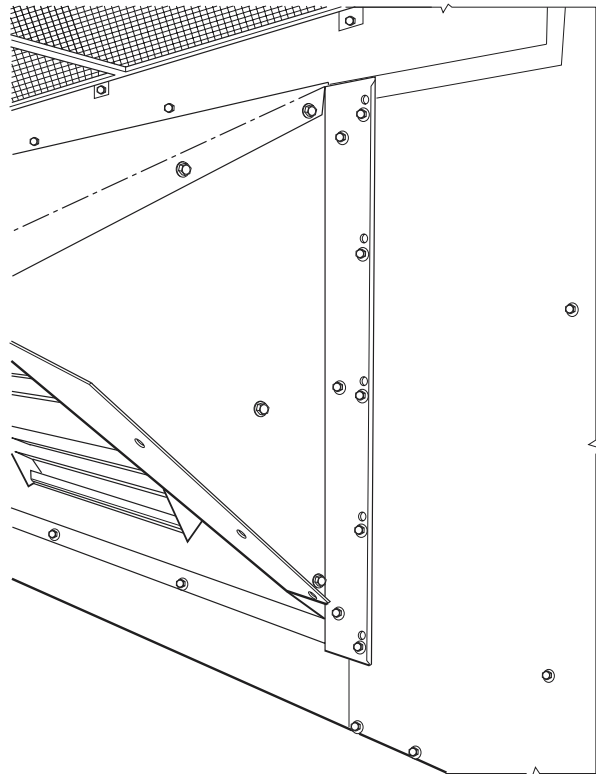

Fig. 22 — Bracket and Hood Positioning
4. With screws saved from Step 1, install brackets on each side of damper assembly. See Fig. 22.